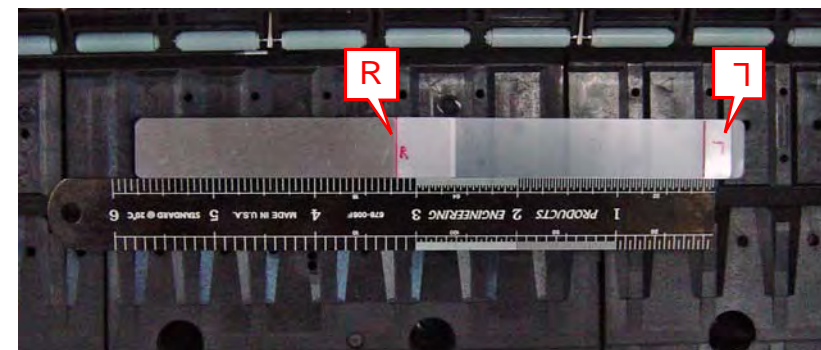

Figure 5-18. Position of the Adjustment jig
6. See Figure 5-18 and secure the ruler on the Platen with the double-sided tape.
*NOTE: Make sure to set the Ruler and the jig on the position A as shown in Figure 5-18.*